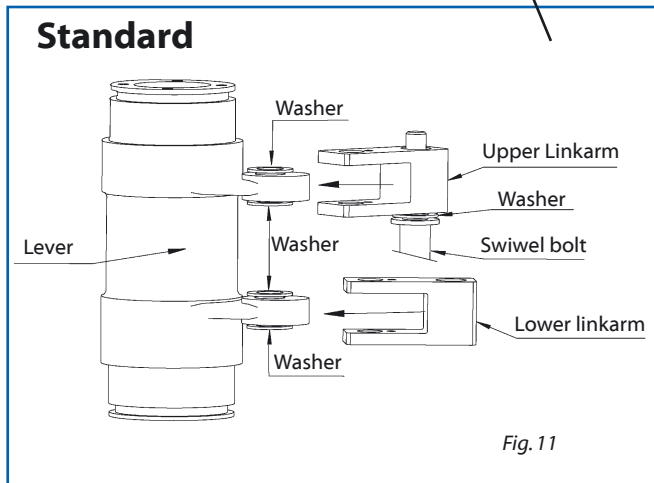

Fig. 11
10. Fit the new pin bolt (H) and washer on the new upper link arm (G) and lock with locking ring (O).
11. Refit the lever in the actuator housing. For ATEX connect the grounding cable (R) in the actuator house.
13. Secure the upper link arm on the lever by inserting the pivot pin (F). NOTE! The right position for the washers is demonstrated in the drawing, see Fig. 11). Lock with screw (E).
14. Fit a new seal (P) and refit the cover and the driver.